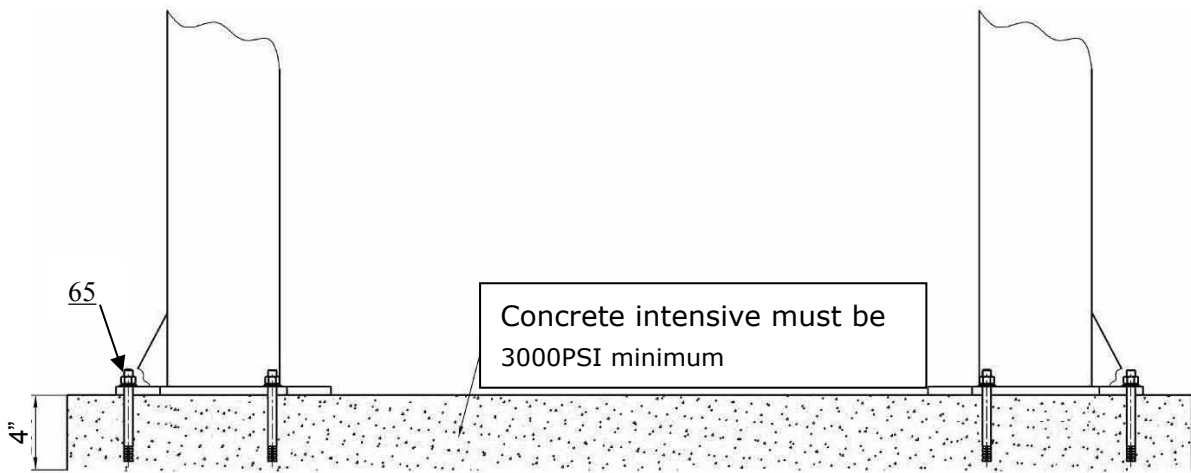

Fig. 6
D. SPECIFICATIONS OF CONCRETE (See Fig. 6)